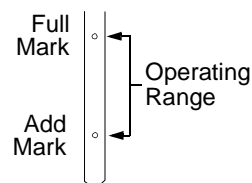

Figure 53
- Always keep the oil level between the full and the add marks on the dipstick. See Figure 53.
- SLOWLY pour oil into the crankcase until the oil level reaches the “FULL” mark on the dipstick. Refer to Figure 53.